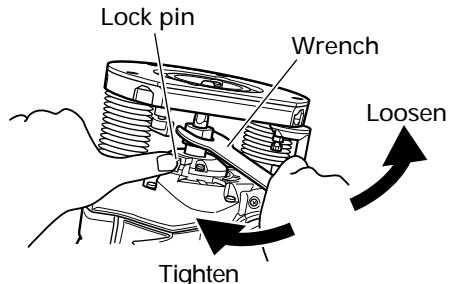

Fig. 2
- (1) Clean and insert shank of bit into the collet chunk until shank bottoms, then back it out approximately 1/16" (approx. 2 mm).
- (2) With the bit inserted and pressing the lock pin holding the armature shaft, use the 23 mm wrench to firmly tighten the collet chuck in a clockwise direction (viewed from under the router). (Fig. 2)
- (3) When using the 1/4" diameter shank bit, replace the equipped collet chuck with the one for 1/4" diameter shank bit which is provided as the standard accessory.